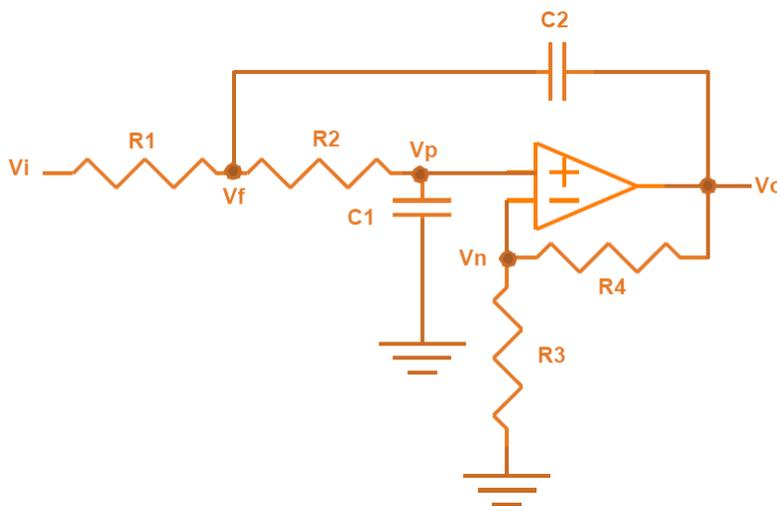

Figure 1. Basic Sallen-Key filter.
You will design, analyze, simulate, and test the circuit in Figure 1.
The starting point of all transmit filters in ADSL modems is the basic Sallen-Key filter depicted in Figure 1. It has a minimum number of components and is simple to design. The standard specifications are a passband from 1.7 KHz to 119 KHz, with a very steep slope at higher frequencies to reduce interference.
For the circuit in Figure 1 with power supplies $V_{CC} = 12$ V, $V_{EE} = -12$ V, and assuming an ideal opamp, answer the following questions:
At this point, the design is completed since you have selected values for all the components of the circuit in Figure 1.
1. Build the circuit in Figure 1 using power supplies +12 V, -12 V and the component values from your design in the Pre-lab.
4. Use a table to store the frequency, gain, and phase shift data from the measurements in items 2 and 3 above.